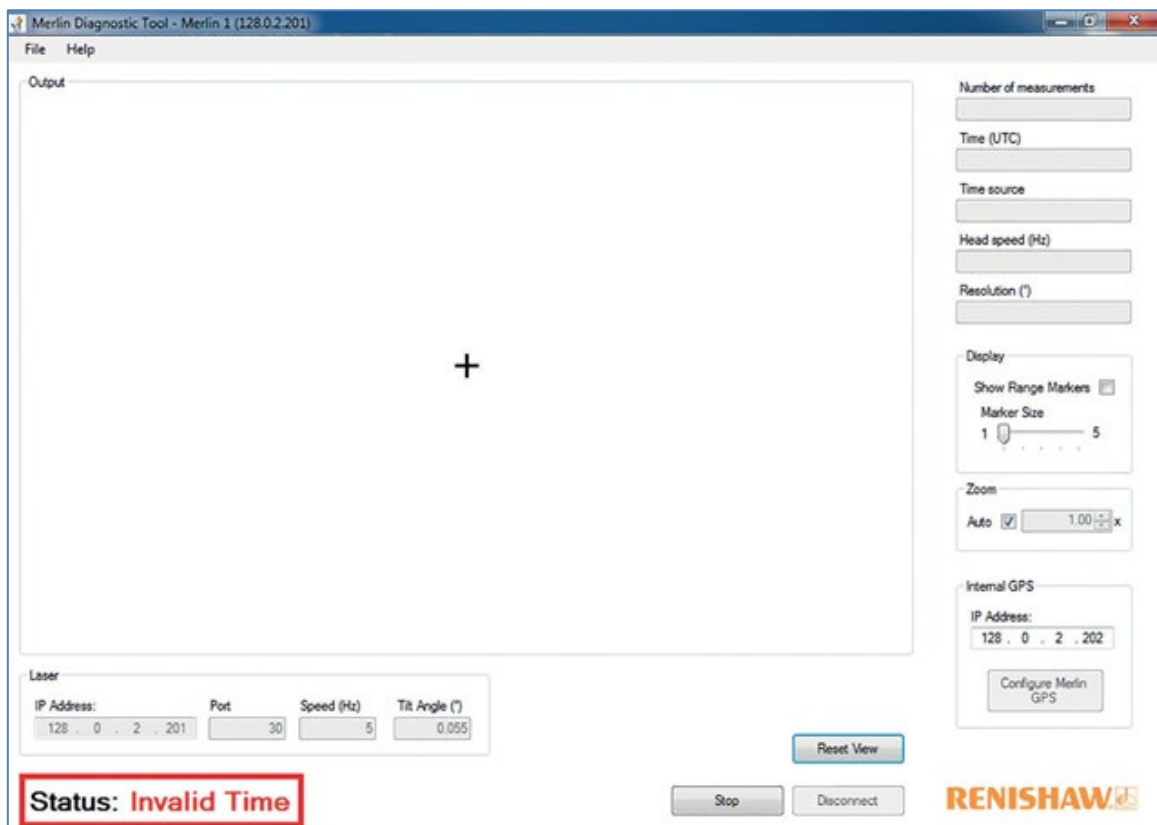

Figure 46 Status: Invalid time
- If Status is **Invalid Time** a ZDA message is being received but the protocol is set incorrectly. For example, if the protocol is set at Merlin (Trimble ZDA) but a Trimble Applanix protocol is being supplied, this would result in an invalid timing message. See Figure 46.